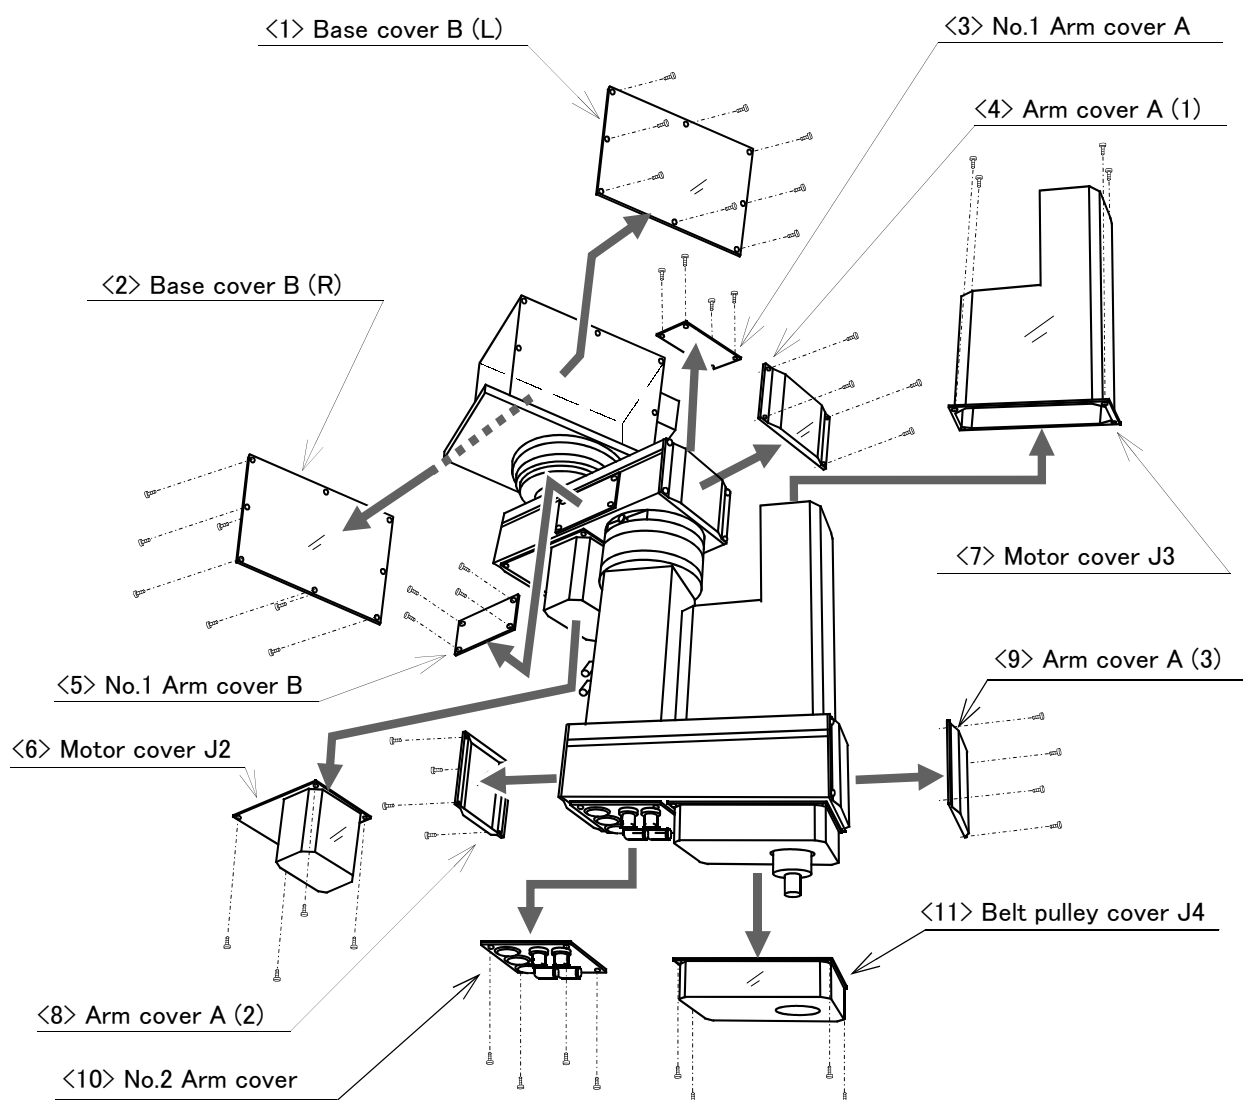

Fig.5-5 : Installing/removing the cover (RH-3FRHR series)
When you remove the cover, don't remove other than the screw shown in Fig. 5-5 and Table 5-5.
- (1) Refer to Fig. 5-5, and remove the covers.
- (2) The names of the cover and installation screw are given in Table 5-5. The number in Table 5-5 correspond to Fig. 5-5.
- (3) Depending on the robot's posture, some covers are hard to be removed. In such a case, change the robot's posture by performing jog operation to remove the covers.
- (4) When reattaching the covers after a maintenance inspection, proceed in the reverse order of their removal. Tightening the screw with the torque shown in Table 5-5.